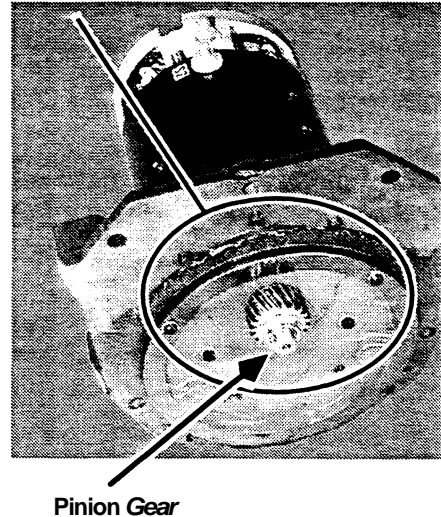

Figure 6-48: Drive Unit, Pinion Gear
9. Remove pinion gear lock nut and pinion gear. Remove **seven (7)** bolts mounting the motor to the drive unit mounting plate. See Figure 6-48.